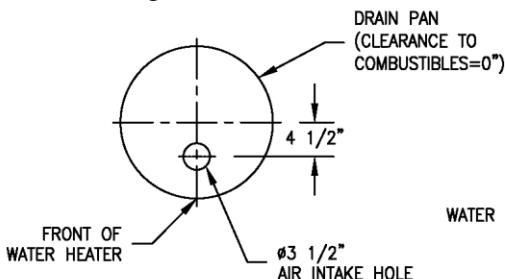

Figure 2
3. Locate and cut a 3-1/2" diameter hole in drain pan at 4-1/2" from center (see Figure 2). This hole will be located at the front of the water heater upon final installation.